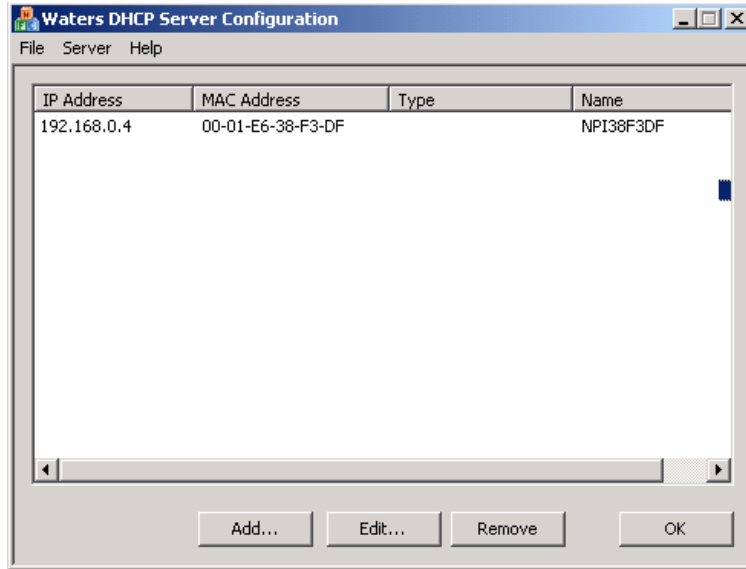

Figure 6: Waters DHCP Server Configuration Page
11. Click the **Configure DHCP** button. The Waters DHCP Server Configuration window opens (Figure 6).